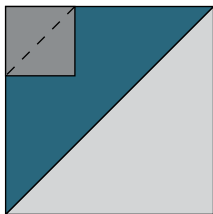
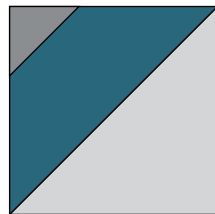

Fig. 8
Fig. 9
4. Place (1) 5 ½" Fabric C square on the top left corner of (1) Unit 1 square, right sides together (Fig. 8). Sew across the diagonal of the smaller square from the upper right corner to the lower left corner (Fig. 8). Flip open the triangle formed and press (Fig. 9). Trim away the excess fabric from behind the triangle ¼" away from the sewn seam.